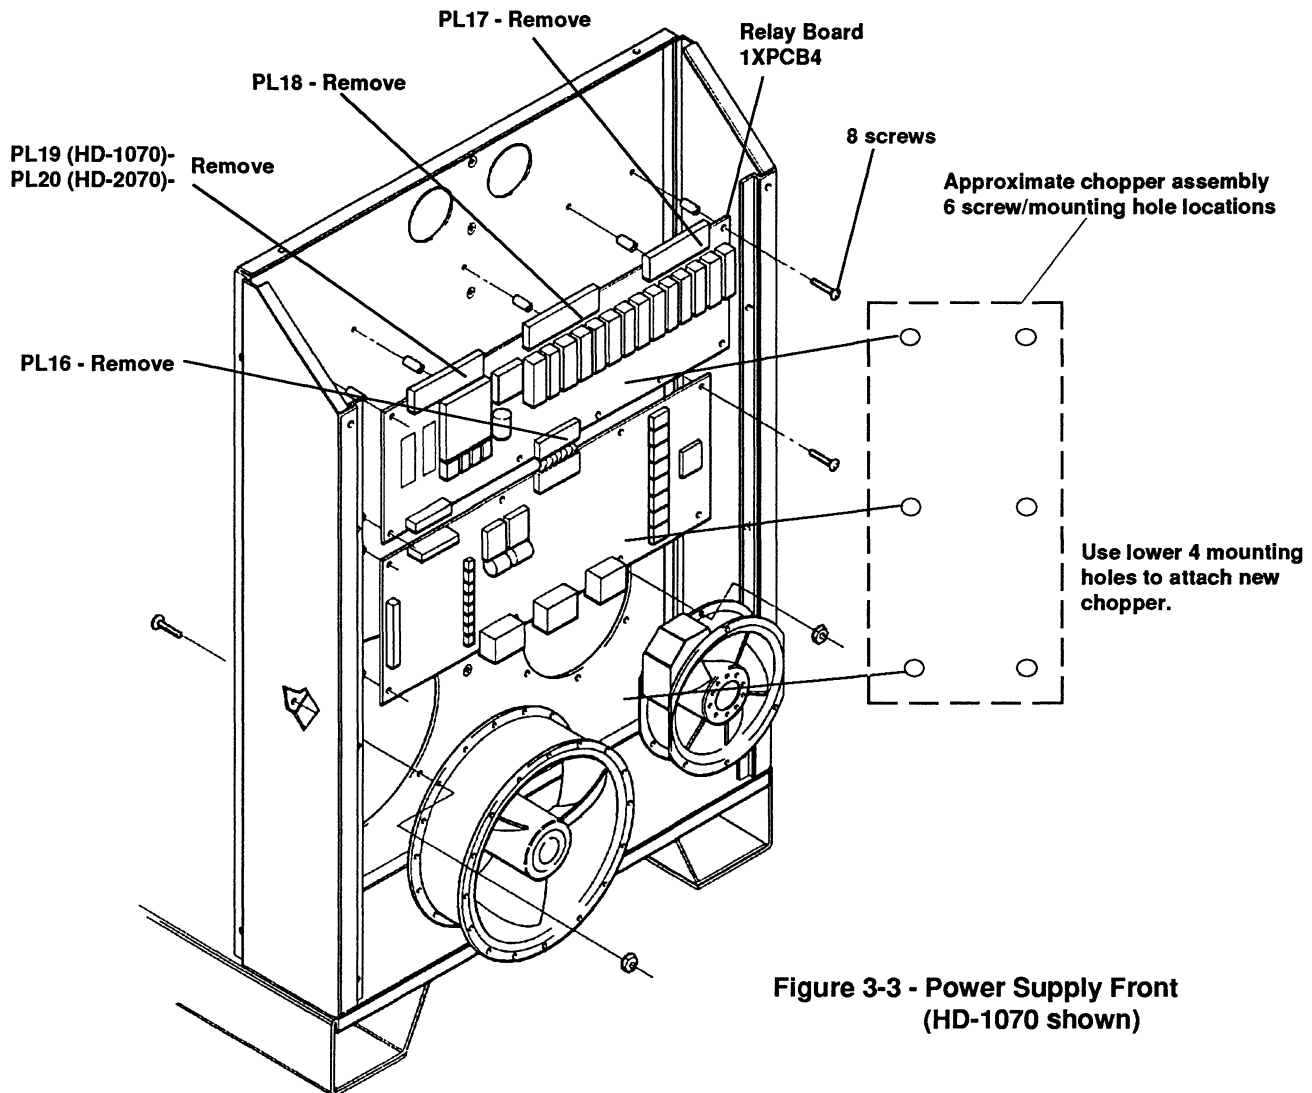

Figure 3-3 - Power Supply Front
1. Remove PL19 (PL20 on HD-2070), PL18, PL17 and PL16 from relay board 1XPCB4. Remove eight screws that secure the relay board to the front panel in order to access one of the chopper mounting screws. See Fig. 3-3.
2. Remove six screws to chopper assembly and remove old chopper. See Fig. 3-3.
9. Secure the relay board 1XPCB4 to the front panel with the eight screws. Reconnect PL19 (PL20 on HD-2070), PL18, PL17 and PL16 to relay board. See Fig. 3-3